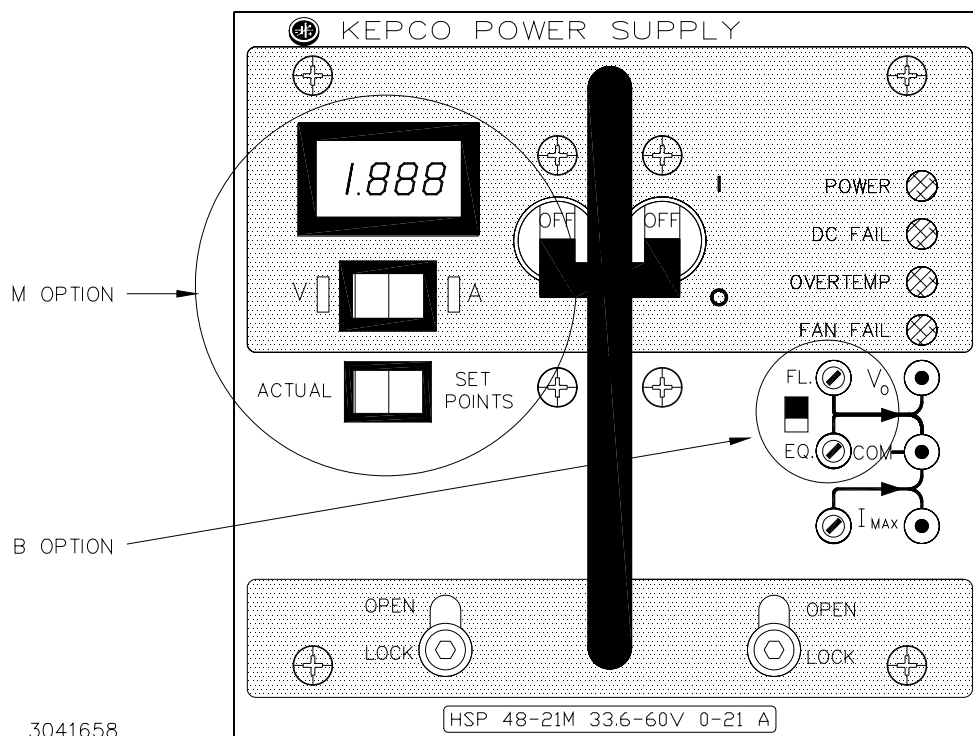

FIGURE 3-7. HSP M (METER) OPTION AND B (BATTERY CHARGER) OPTION, FRONT PANEL
HSP series power supplies are available with a meter option ('M' suffix) which incorporates a $3\frac{1}{2}$ digit LED meter display on the front panel. The meter provides both voltmeter and ammeter functions. The V-A rocker switch directly below the meter (Figure 3-7) selects either output voltage (V) or module current (A) as the normally-displayed parameter. The associated LED, either V or A, lights to show the selected switch position. When depressed, the ACTUAL/SETPOINTS momentary-contact switch located below the V-A selector switch causes the meter to display the programmed value of output voltage or current limit, as selected by the V-A switch. The
When the Float-Equalize switch is set to FL (see Figure 3-7), the Float potentiometer adjusts the output voltage; when set to EQ, the Equalize potentiometer adjusts the output voltage. The FL-EQ position also determines which voltage is available at test point Vo. CAUTION: Adjusting the non-selected potentiometer (e.g., FL potentiometer with switch set to EQ) can have adverse effects, because an unknown output voltage will be applied to the load when the switch position is changed. The fault detector window is altered to accommodate the normal range of battery voltage from fully discharged to peak equalize charge as shown in Table 3-3.: